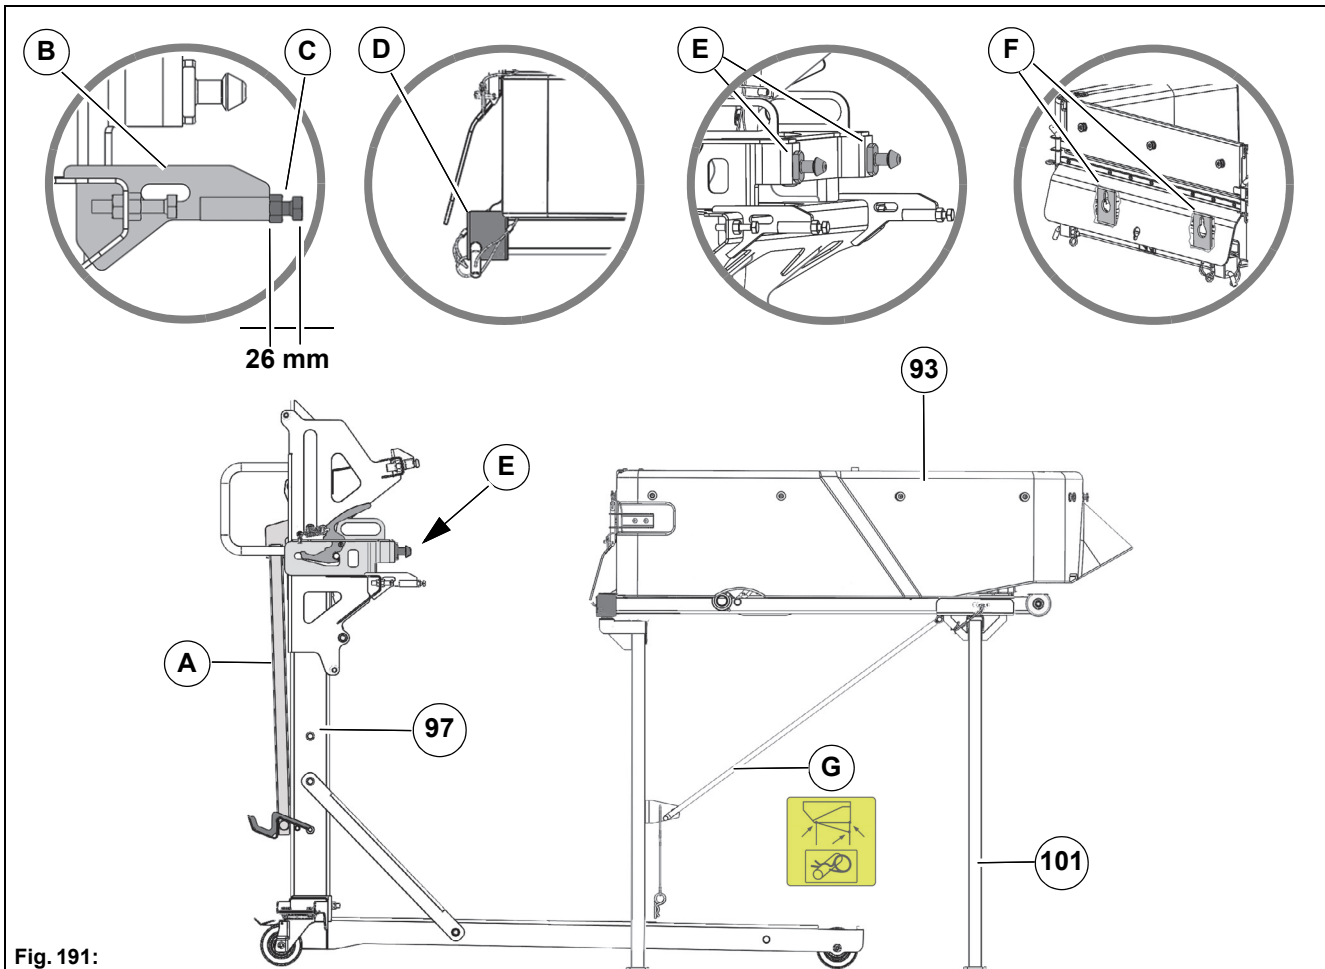

Fig. 191:
Risk of injury due to tilting over! Make sure that the cross strut **Fig. 191-G** has been inserted when transporting the loading platform on the supports **Fig. 191-101**. Secure the supports with bolts and splints.
5. Push the trolley with the lower positioning aid **Fig. 191-B** against the fixed bearings **Fig. 191-D** of the loading platform. The screw **Fig. 191-C** must be adjusted to 26 mm!
6. Carefully lower the lever **Fig. 191-A** of the trolley and make sure that the locking pins **Fig. 191-E** sit in the holders **Fig. 191-F** of the loading platform. Lock the lever **Fig. 191-A**.